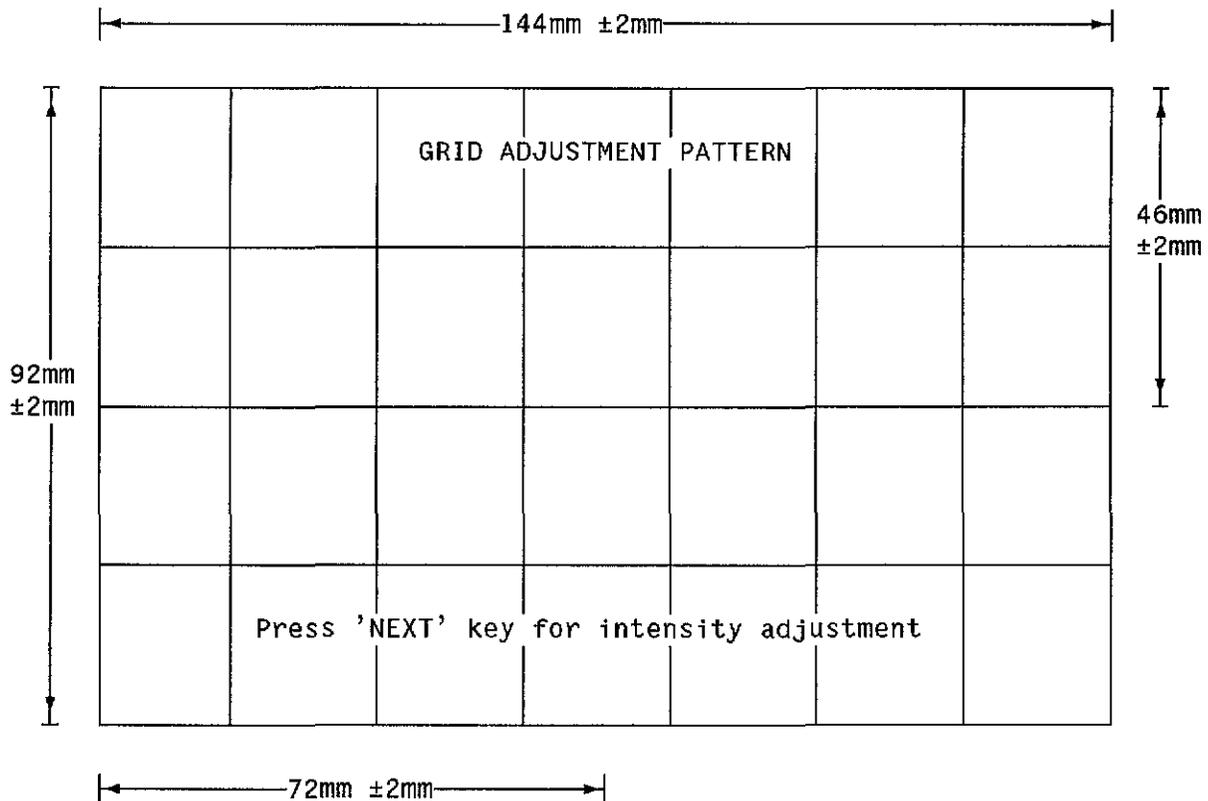

Figure 4-7. Grid Adjustment Pattern
6. Enter 1 in Execute Hardware Test field to select Display Pattern as shown in figure 4-7.
9. Adjust WIDTH until total picture width is same as width of the outer boundary marks shown in figure 4-7. Note that outer edges of the display may NOT align with outer boundary marks.
11. Adjust VER. PHASE to vertically center test pattern (figure 4-7). This should only require minor adjustment.